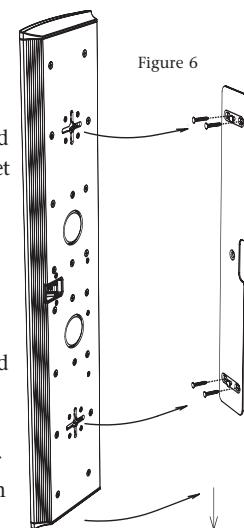

Figure 6
12. Line up the speaker so that the mounting heads enter the center part of the + shaped channels; slide the speaker down so that the mounting heads hold the speaker in place. [Figure 6]